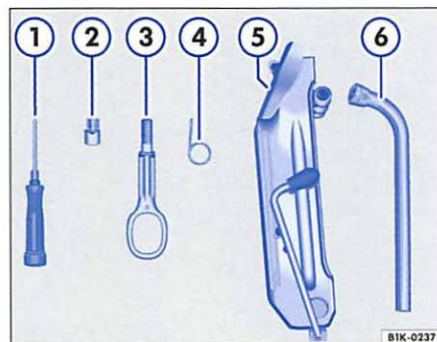

Fig. 21 Vehicle tool kit. Some of the items shown come only with certain models.
The tool kit contains the following items ⇒ fig. 21:
- Take the wire hook from the vehicle tools ⇒ page 80, fig. 21 ④.
- Take the adapter for anti-theft wheel bolts out of the vehicle tool kit ⇒ page 80, fig. 21 ②.